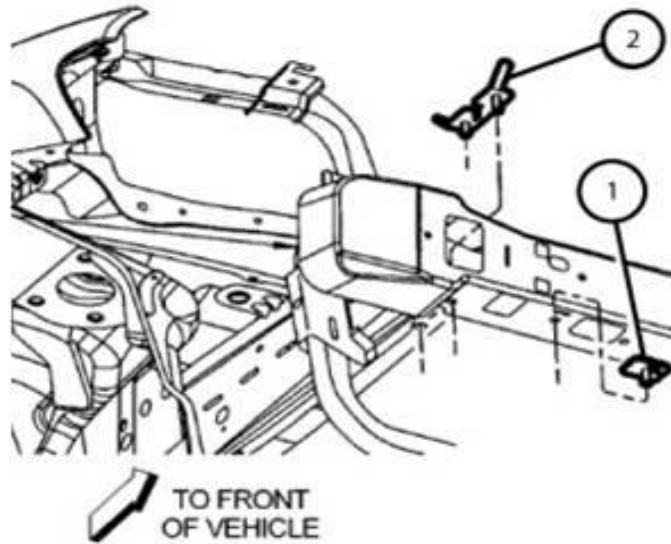

Fig. 6 Bumper Reinforcement Stud
3. Insert the single and double studded tow hook brackets into the front reinforcement bar on the right and left sides (Fig. 6).